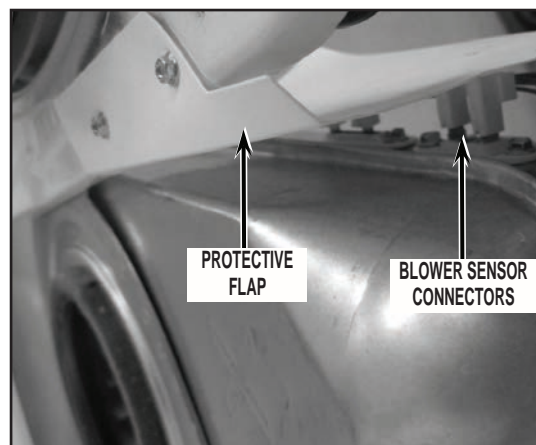

FIGURE 37
- At the bottom of the front bulkhead is a lower protective flap. Verify flap is laying above the blower sensor connectors as shown in *Figure 37*.